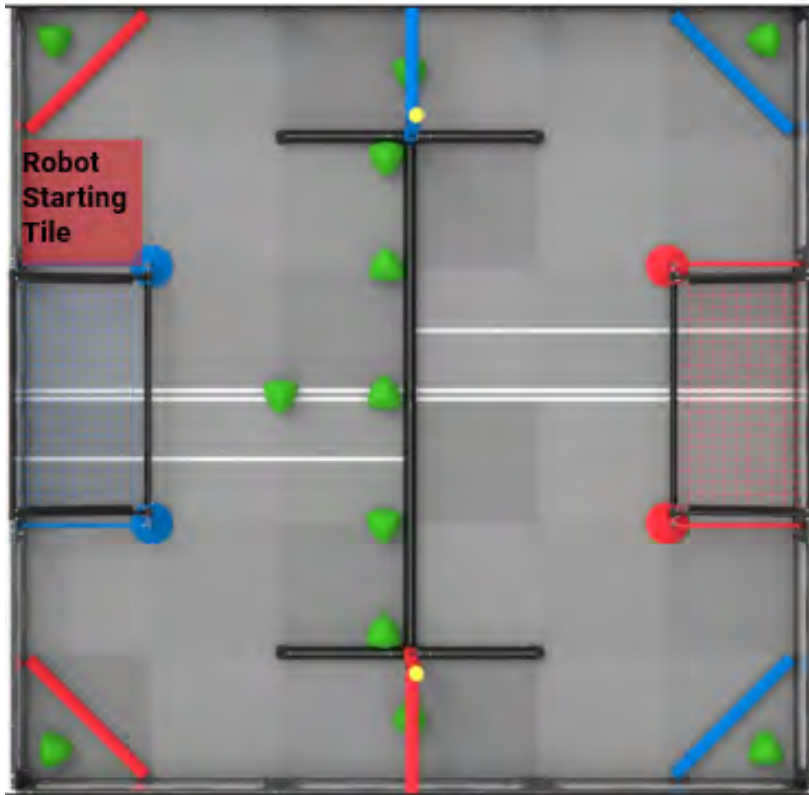

Figure 21: A depiction of the Robot Starting Tile and the boundaries.
**Starting Tile** – The gray foam tile along the edge of the field perimeter to the left of the Blue Alliance Goal. See Figure 21.
- a. Contacting the Robot Starting Tile. See Figure 21.
- c. Not contacting any Triballs other than a maximum of one (1) Preload. See rule <SG4>.
- f. *Teams* may use the two (2) red *Alliance Preloads* as follows:
- g. The two (2) blue *Alliance Triballs* are not used in *Robot Skills Matches*.